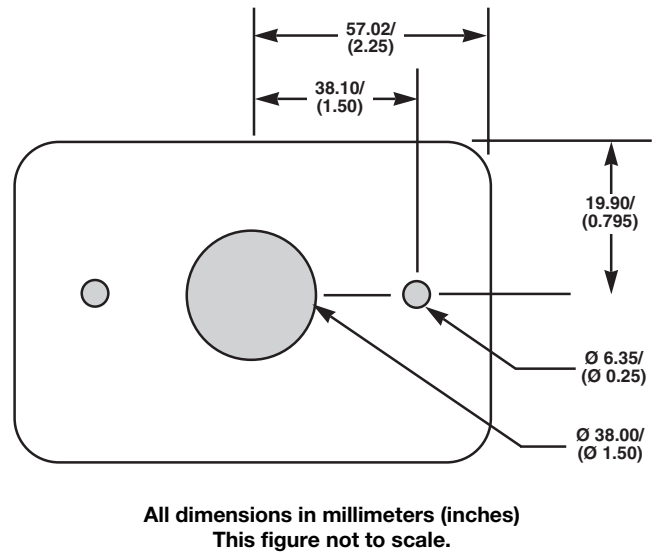

Figure 3. Surface Mount Template Illustration
C. For surface mounting without the bracket, drill holes in the vertical mounting surface using the vertical surface mount template illustration. See Figure 3.